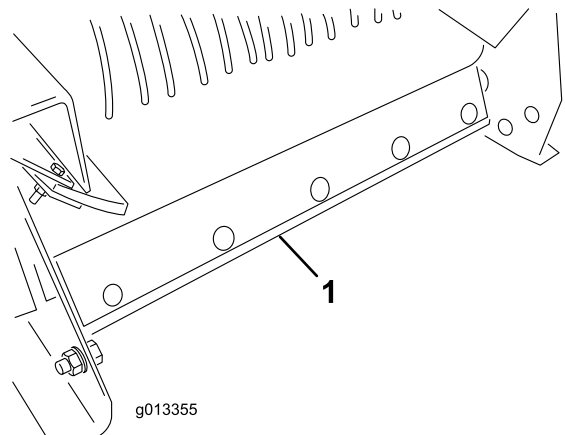

Figure 61
6. Remove the belt cleaning scraper assembly from the rear of the machine (Figure 61).